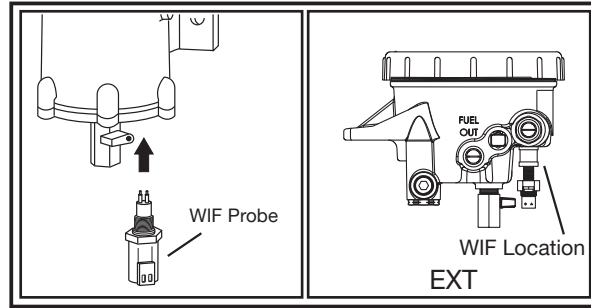

Figure 2 - WIF Probe Installation
Step 1 - Install the WIF Probe (3911940 S) into the bottom of the Diesel Pro (see Figure 2). Torque to 20-25 in-lbs (2.3-2.8 N-m).